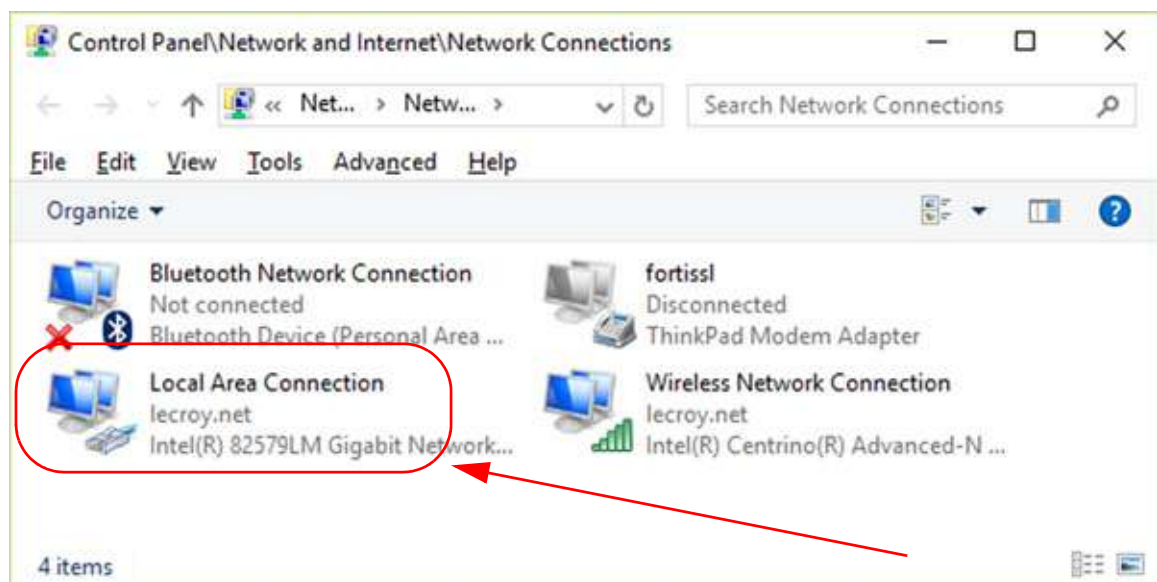

Figure 3.22: Local Area Connection Icon
3. Click on “Change Adapter Settings” and the Local Area Connection icon will pop up. See Figure 3.22.